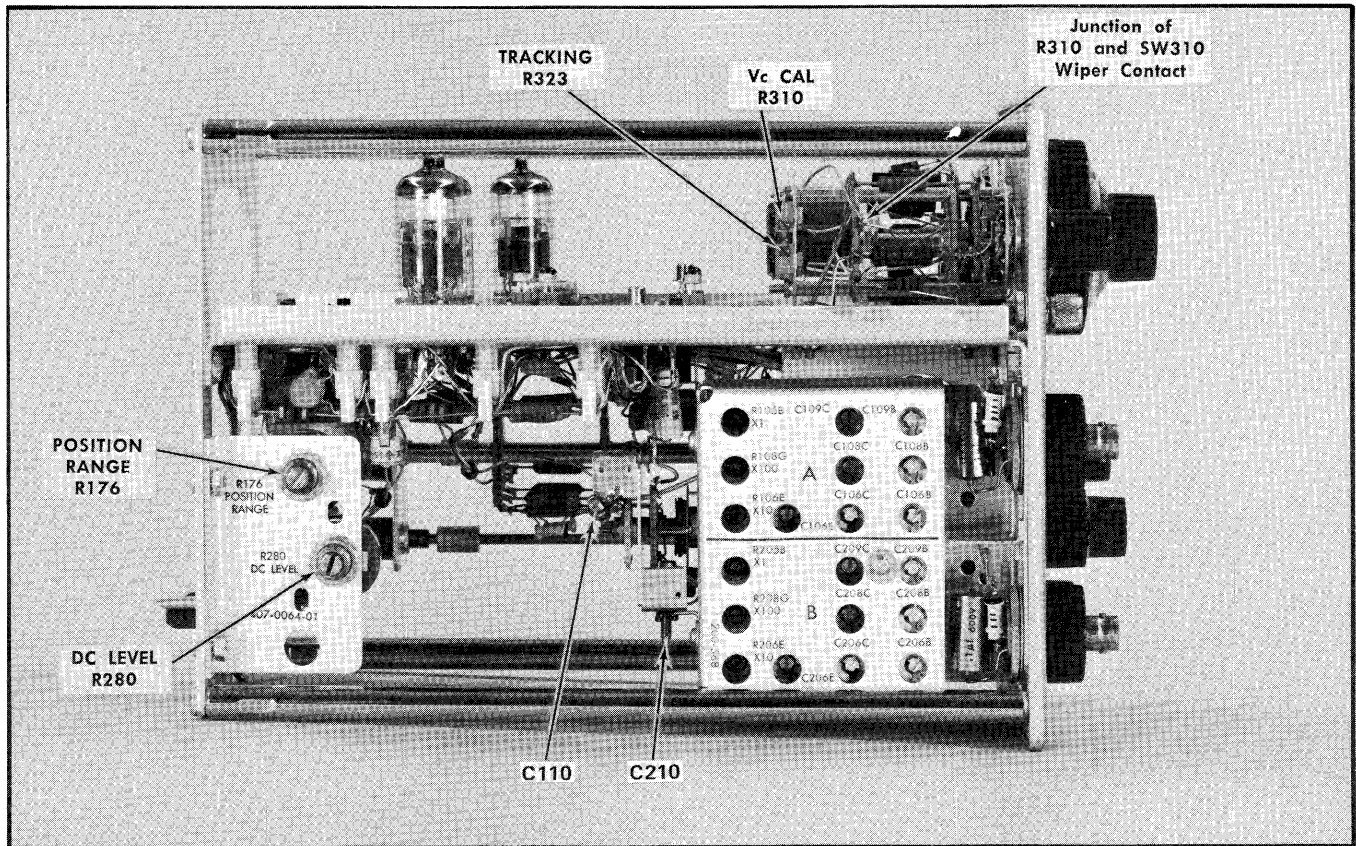

Fig. 5-1. Location of the calibration adjustments and test point (left-side view; securing rod removed for picture).
- a. Set the non-loading voltmeter (item 3) to +11 volts.
- c. Adjust the Vc CAL control R310 (see Fig. 5-1) for a null reading on the meter.
- c. Adjust the TRACKING control R323 (see Fig. 5-1) for a null reading on the meter.
c. Adjust the POSITION RANGE control R176 (see Fig. 5-1) so the trace coincides with graticule center.
b. Adjust the DC LEVEL control R280 (see Fig. 5-1) to obtain a reading of +6 volts (within a tolerance of ± 0.5 volt) on the VOM.